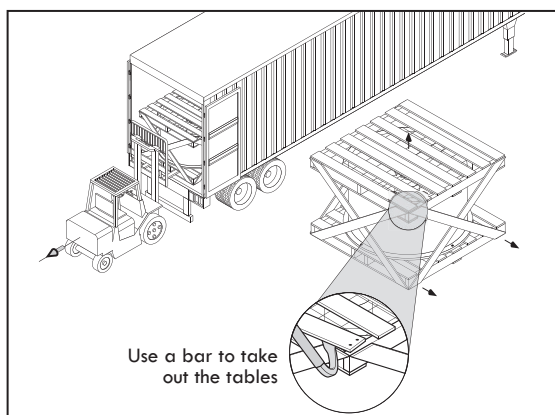

Figure AP-3: Lifting the fan duct with a forklift
C. Once the wooden skid is on the edge, proceed to lift and take out the fan duct. See Figure AP-3.